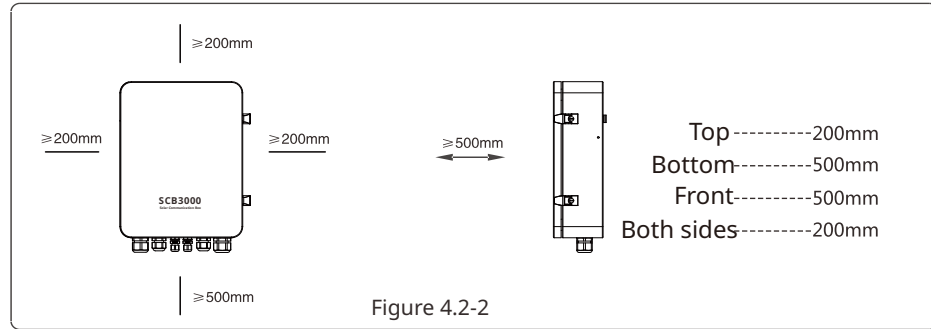

Figure 4.2-2
- To ensure good heat dissipation and easy disassembly, the minimum clearance around the SCB3000 must not be less than the following values, as shown in Figure 4.2-2.